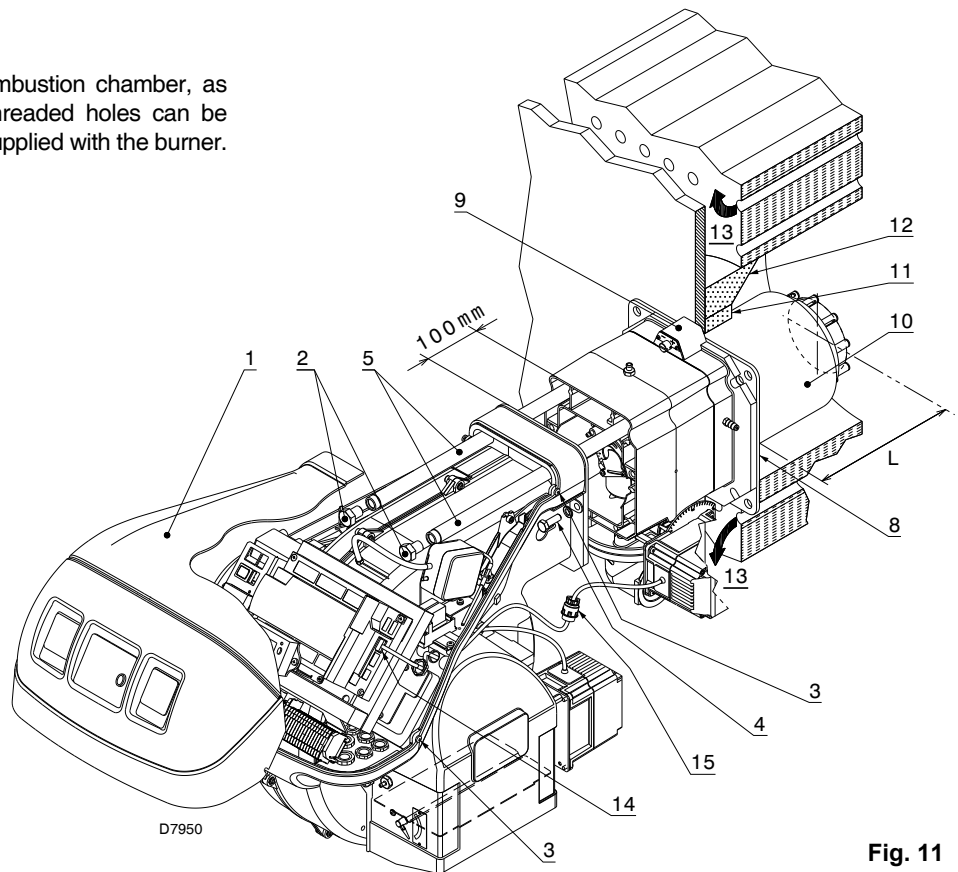

Fig. 11
For boilers with front flue passes 13) or flame inversion chambers, a protection in refractory material 11) must be inserted between the boiler refractory 12) and the blast tube 10). This protection must not compromise the extraction of the blast tube. See Fig. 11.
Separate the combustion head from the rest of the burner, Fig. 11.
Once this operation has been carried out, fix the flange 9)(Fig. 11) to the boiler plate, interposing the insulating gasket 8)(Fig. 11) supplied.
- reassemble the burner on the guides 3) at about 100 mm from the pipe coupling 4) - burner in the position shown in Fig. 11;
- connect the plug of the servomotor 14) (Fig. 11) and tighten the cable grommet 15) (Fig. 11);